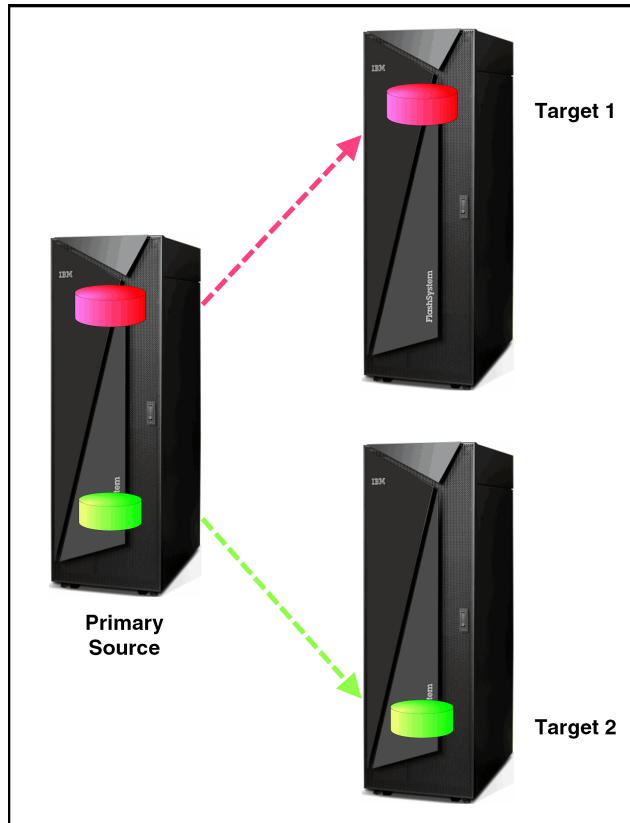

Figure 1-4 Fan-out target configuration
A single local (production) IBM FlashSystem A9000 or A9000R can be connected to two remote (DR) IBM FlashSystem A9000s or A9000Rs in a fan-out configuration, as shown in Figure 1-4. Both remote systems can be at the same location, or each of the targets can be at a different location. Certain volumes on the local system are copied to one remote system, and other volumes on the same local IBM FlashSystem A9000 or A9000R are copied to a different remote IBM FlashSystem A9000 or A9000R. This configuration can be used when each system at the DR site has less available capacity than the system at the local site.